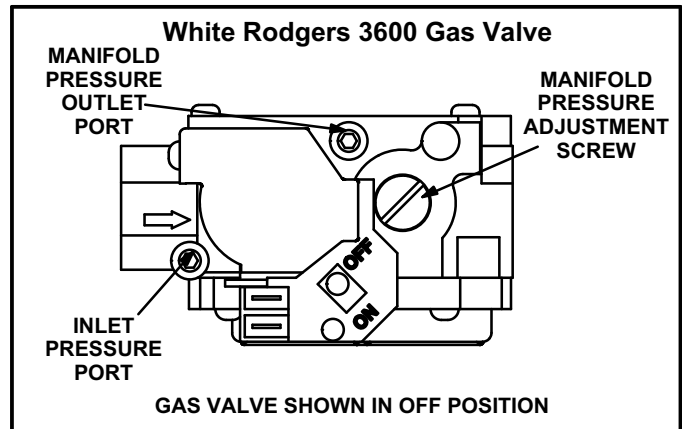

FIGURE 12
- 6 - Move gas valve lever to **OFF position**. Do not force. See figure 12.
- 8 - Move gas valve lever to **ON position**. Do not force. See figure 12.
- 4 - Move gas valve lever to **OFF position**. Do not force. See figure 12.